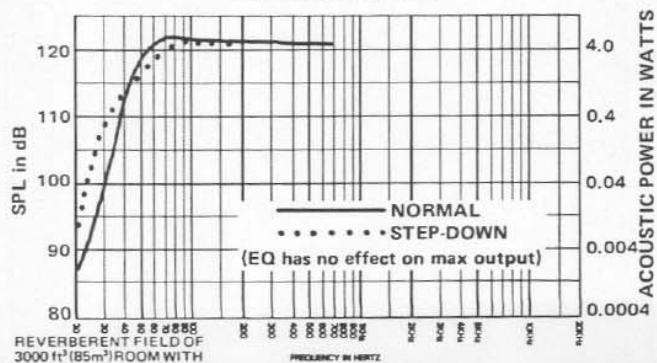
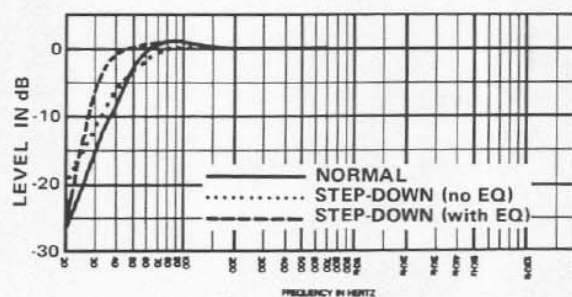

FIGURE 7
FIGURE 6
Figure 6 shows small-signal total acoustic power output versus frequency for the TL505/EVM-18B. In addition, Figure 7 shows the maximum acoustic power output versus frequency. The maximum output is limited by either (1) the thermal power handling capacity of the speaker, or (2) the speaker's maximum linear cone excursion capabilities, whichever occurs first. Note that some 2 to 3 dB of maximum output in the 55 to 80 Hz range is sacrificed when the step-down mode is used.